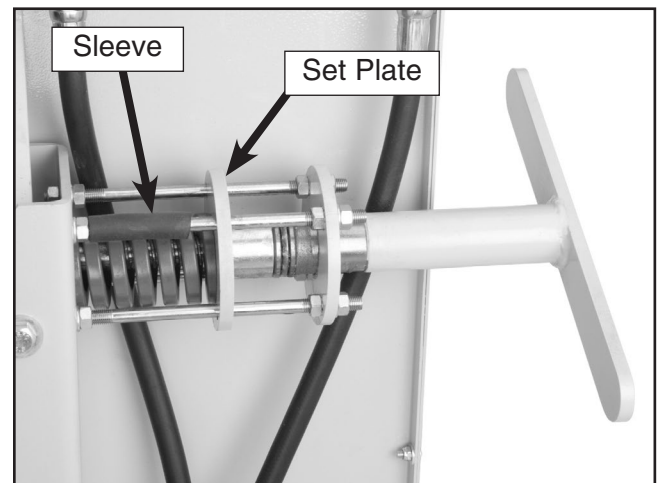

Figure 27. Blade tensioning handle.
4. Hand tighten the handle until the set plate contacts the sleeve shown in **Figure 27**.